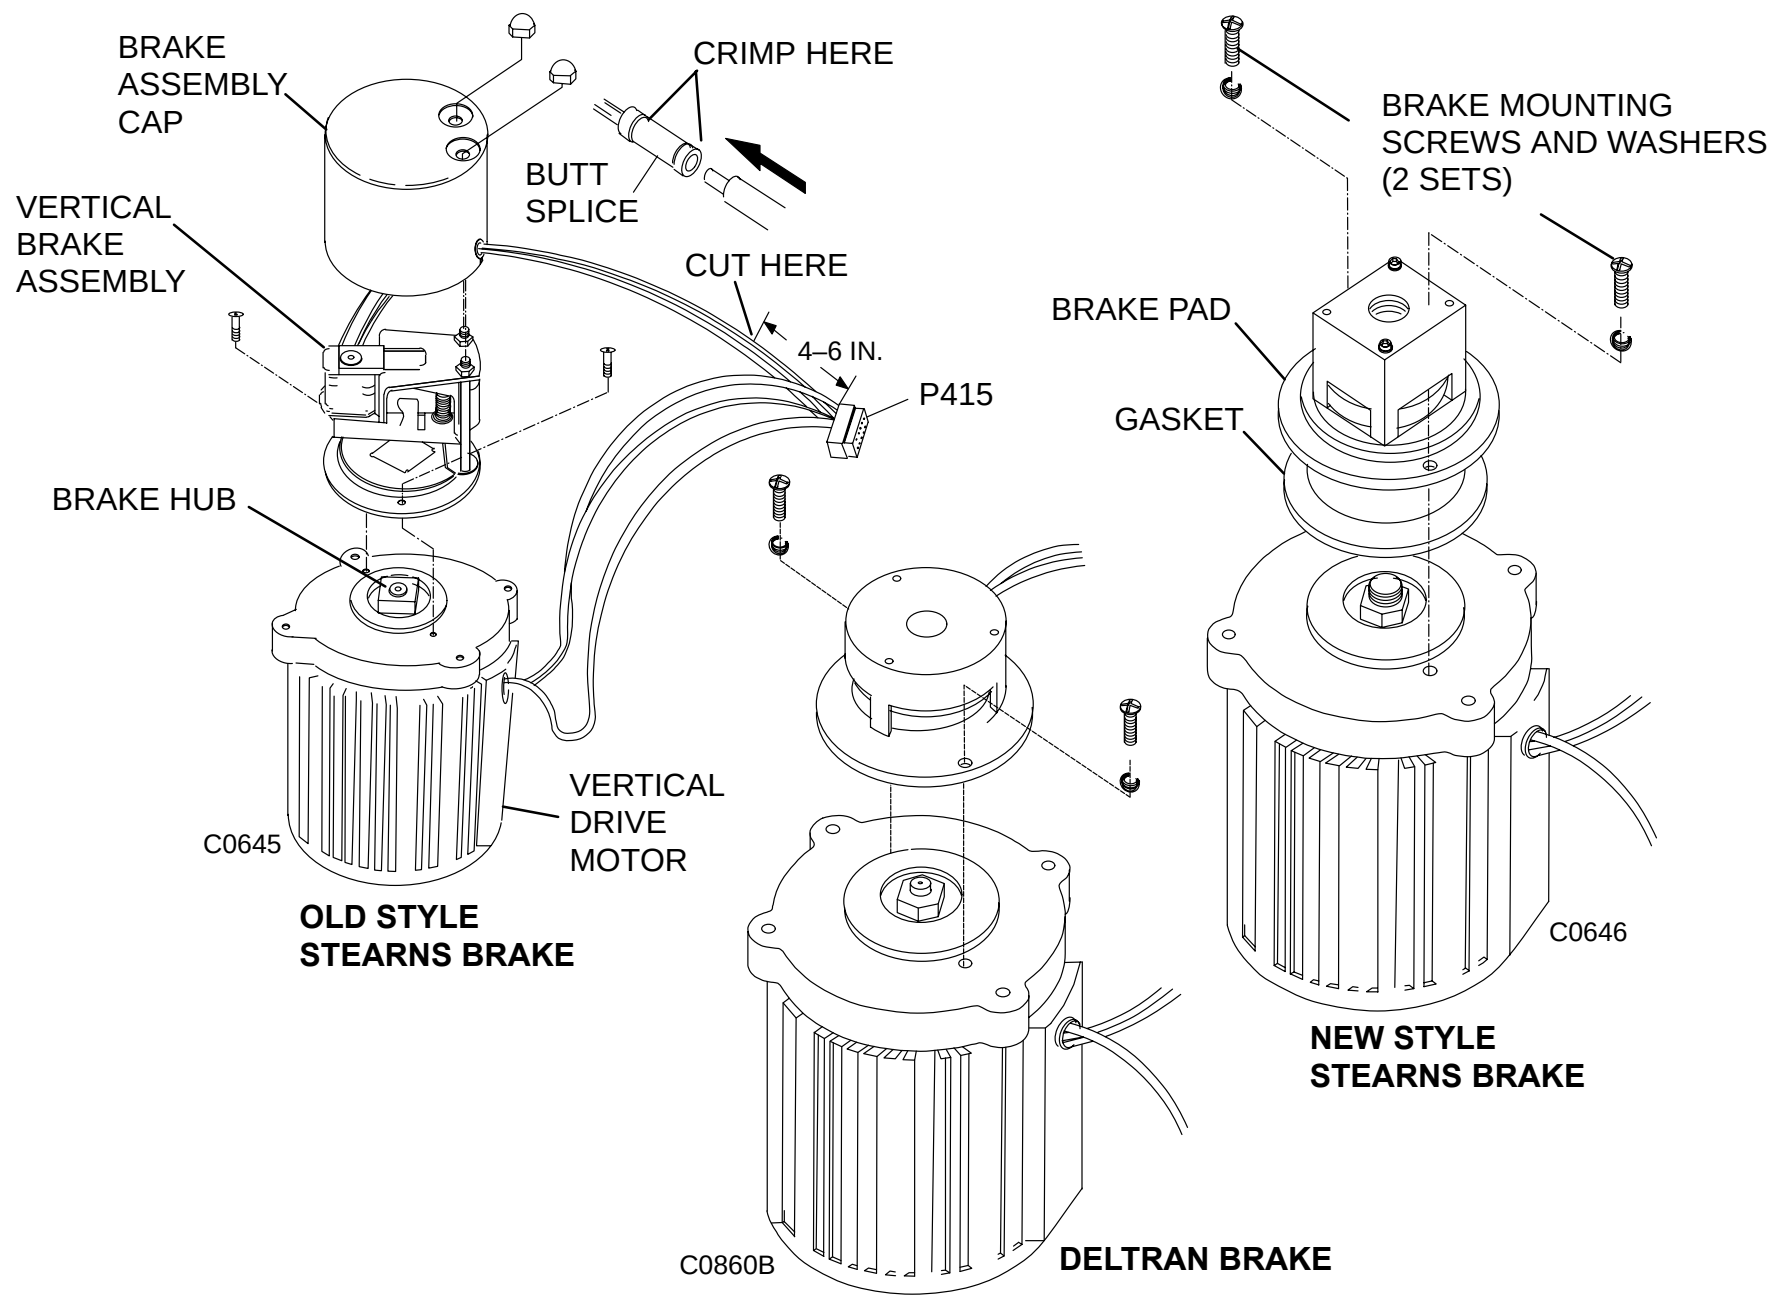

FIGURE 214 VERTICAL MOTOR AND BRAKE
16. Cut the motor wires 6" from connector P415. See Figure 214.